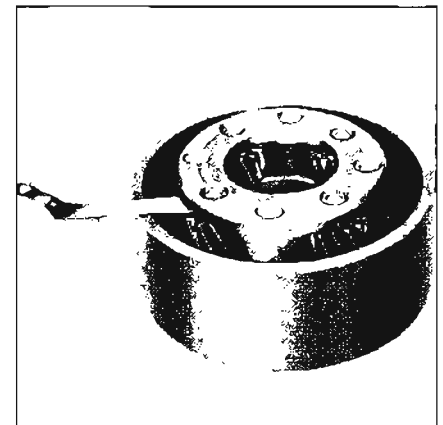

Figure 5-662
6. Check pinion end play. Pinion end play should be .009" - .024". See Figure 5-662.